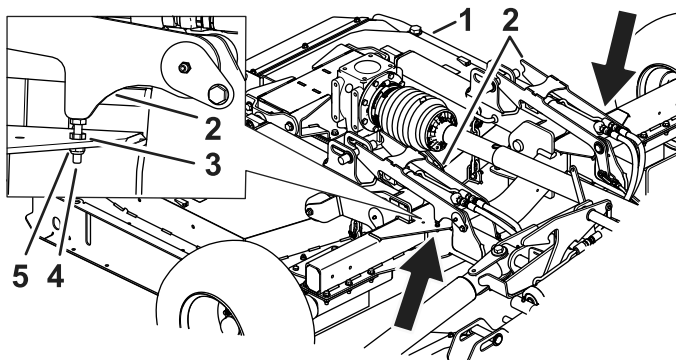

Figure 85
3. After adjusting the bolt tighten the jam nut and the nut (Figure 85).
1. Loosen the jam nut (Figure 85).
2. Adjust the bolt up or down to correct the deck lock location for latching the deck pins (Figure 85).